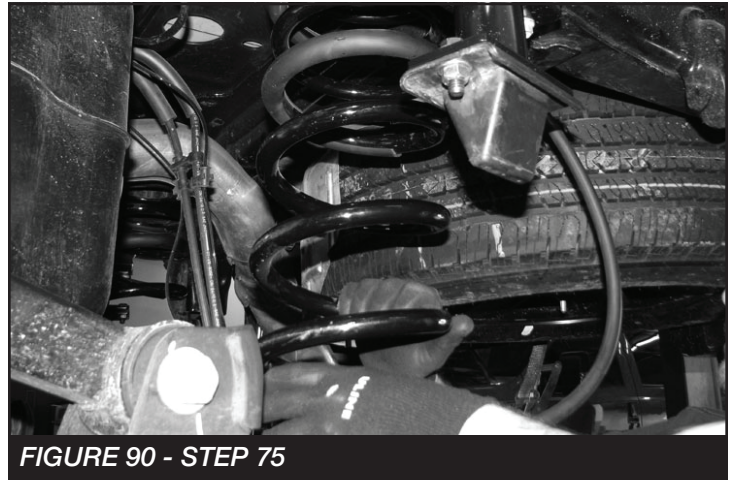

FIGURE 90 - STEP 75
75. Re-install the factory coil springs and rubber isolators as shown. **SEE FIGURE 90**